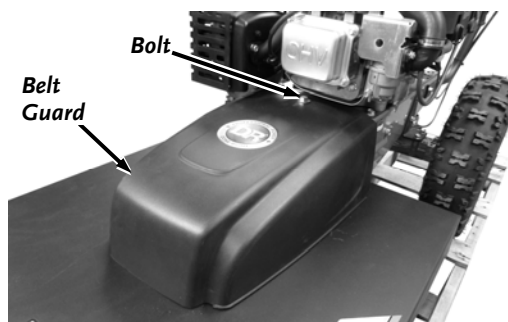

Figure 9
10. If the Blade Engage Cable is adjusted properly, position the Belt Guard and secure with the 3/8-16 X 1.5" Flange Bolt using a 9/16" Wrench (**Figure 9**).